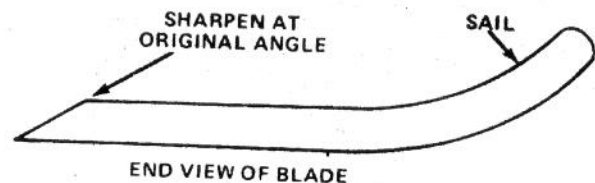

Figure 33
7. Using a file, sharpen cutting edge at both ends of the blade (Fig. 33). File only top side of blade, not the bottom side.